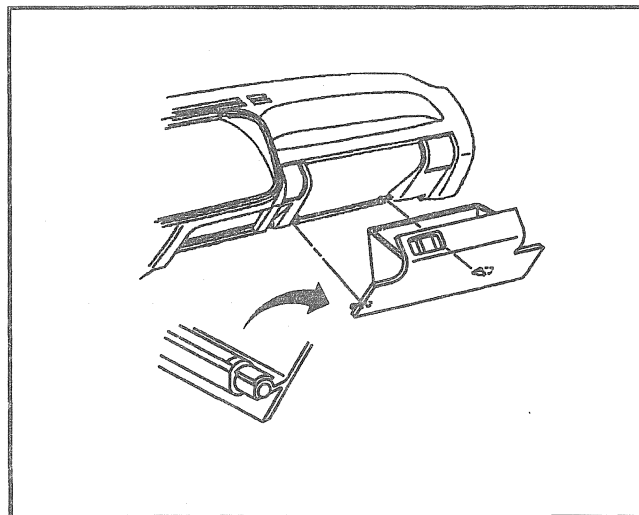

Figure 24—I/P Storage Compartment
15. I/P storage compartment (Figure 24).